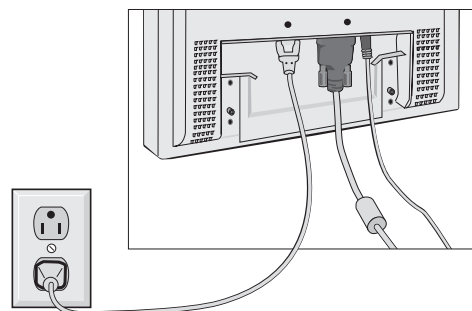

Figure R.3
5. Connect the AC cord, signal cable and Audio cable to the back of the monitor (Figure R.3).